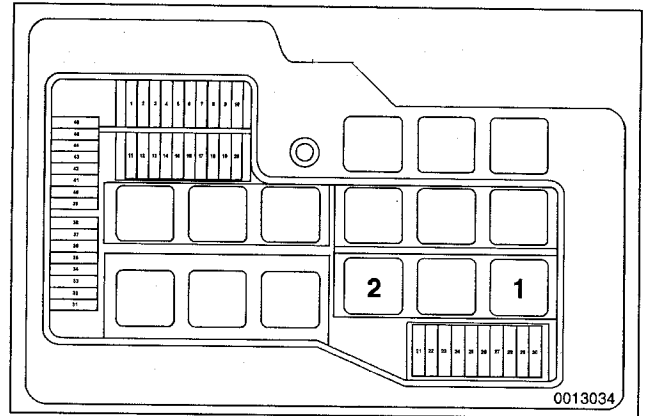

Fig. 4. Auxiliary radiator cooling fan low speed relay (1) and high speed relay (2) in power distribution box. (Relay locations may vary.)
4. If no faults are found, remove low speed relay and turn ignition ON. See Fig. 4.